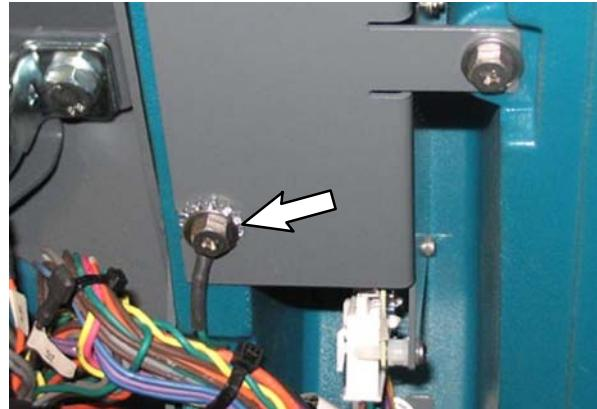

FIG. 25
55. Use one M6 hex screw (11), one flat washer (12), and one lock washer (14) to secure the main wire harness static ground wire to the side brush circuit board bracket (13) / steering shroud. (Fig. 25)